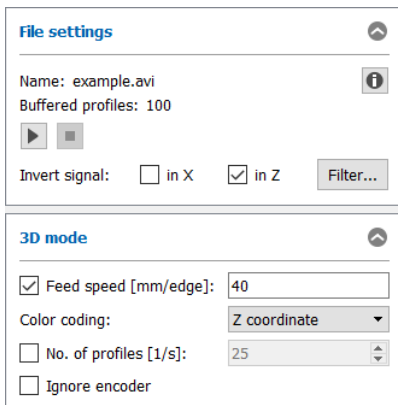

Fig. 3.9: Settings in offline mode
- Press the "Info" button in the "File settings" box (see Fig. 3.9). You then access the "Sensor settings offline" dialog box.